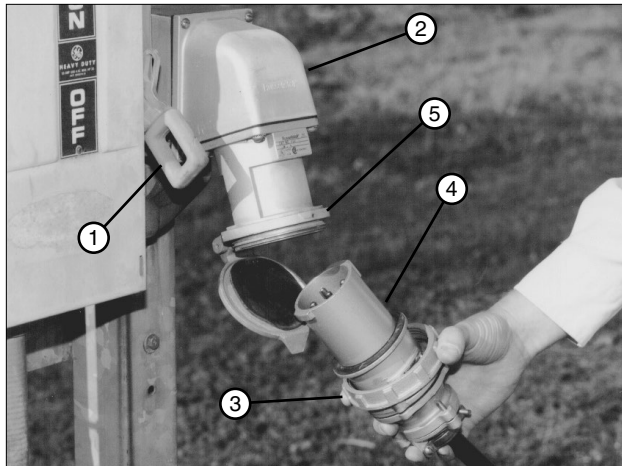

Figure 38-1 1. Disconnect Switch 2. Power Pedestal 3. Plug Cap Collar 4. Plug 5. Receptacle
- Turn the power pedestal disconnect switch to the OFF position. See figure 38-1.
- Remove plug cap from electric cord plug, and insert the electric cord plug into the power pedestal receptacle. See figure 38-1.